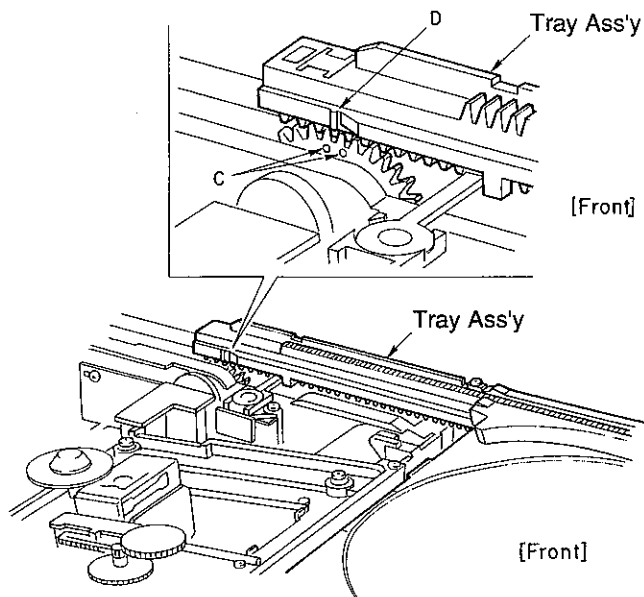

Fig. 2.7.3
- (3) Place the Tray Ass'y so that the protrusion "D" of the Tray Ass'y is positioned between the marks (holes) "C" on the S-F-Gear. Refer to Fig. 2.7.3.
- (4) Reverse the removal procedure in item 2.7.1.